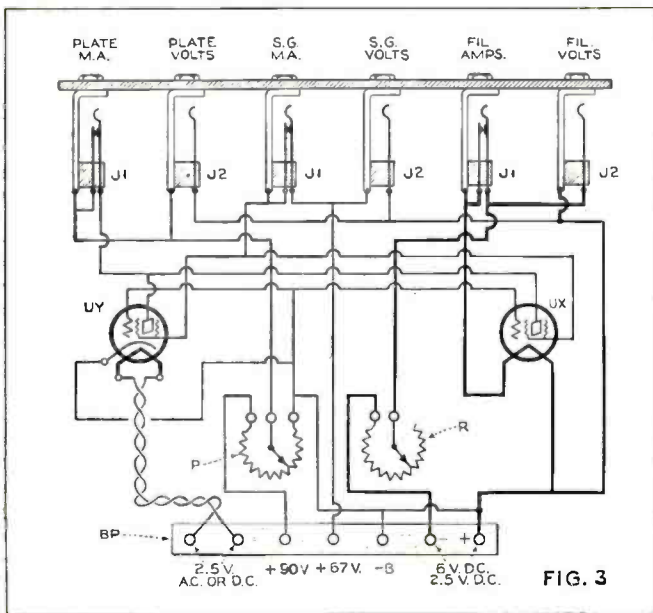

Figure 3. The circuit for a simple set-up used in determining the negative resistance characteristics of screen-grid tubes
"Measure them. I'll lend you the bridge I built to test all your tubes and you can pick out the best one to use in your frequency meter. Here's what the bridge looks like--(Figure 3). It has two sockets to take care of both a.c. and d.c. tubes. Except for the filaments the sockets are wired in parallel. The potentiometer (P) is shunted across the 90 volt B battery and serves as a voltage divider. I made my readings in two volt steps and plotted them on cross section paper, one division of the meter scale equivalent to one square on the paper. The plate current was plotted with five squares equaling one milli-ampere. This makes for easy plotting on a ten mil. scale, one division of the scale equals one square on the paper.